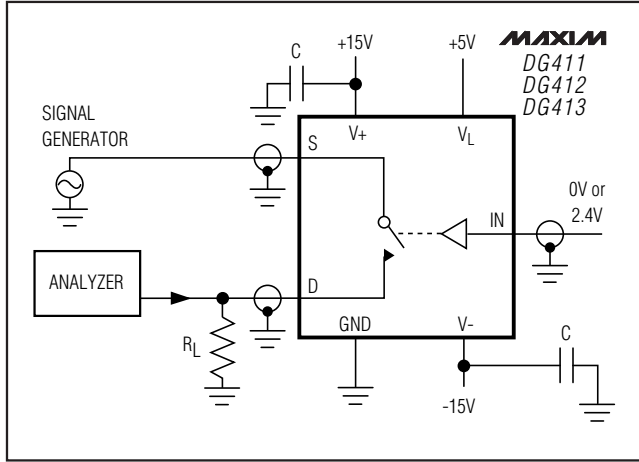

Figure 5. Off-Isolation
**Note 5:** Off-Isolation =  $20 \log (V_D/V_S)$ , VD = output, VS = input to off switch. See Figure 5.